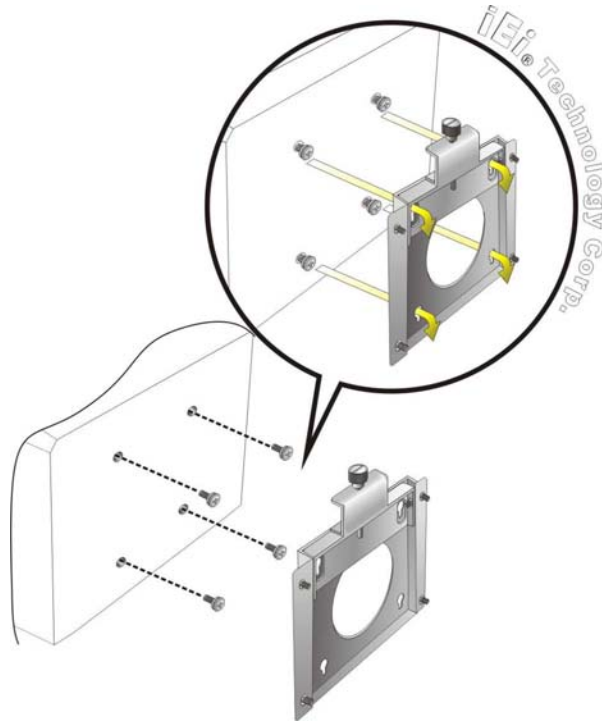

Figure 4-6: Mount the Embedded System
- Step 6:** Insert the four monitor mounting screws provided in the wall mounting kit into the four screw holes on the bottom panel of the system and tighten until the screw shank is secured against the bottom panel (**Figure 4-6**).
- Step 8:** Carefully insert the screws through the holes and gently pull the monitor downwards until the IBX-530B-N270 rests securely in the slotted holes (**Figure 4-6**). Ensure that all four of the mounting screws fit snugly into their respective slotted holes.